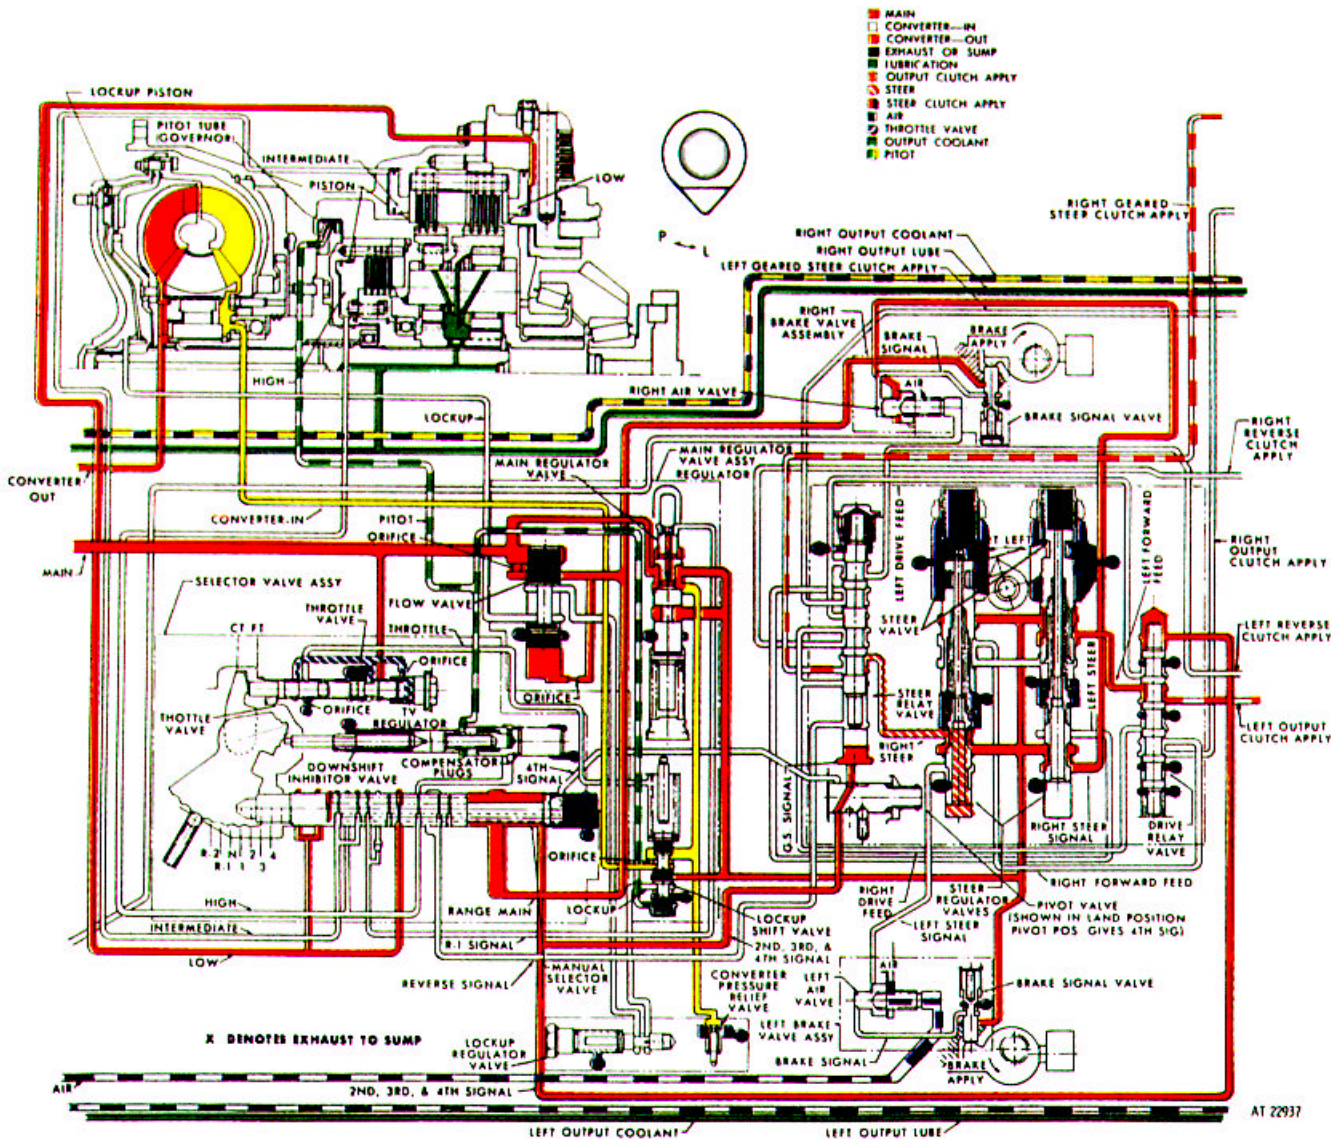

Figure 2-10. Hydraulic system, second gear normal right steer operation-schematic view.
2-42. Second Gear, Normal Right Steer Operation (fig. 2-10)
a. *Operational Circuits.* This driving condition uses the same hydraulic circuits as second gear, normal right steer (para 2-42, and fig. 2-10), except the vehicle operator has selected pivot steer operation. In pivot steering, the vehicle pivots in every gear except fourth.